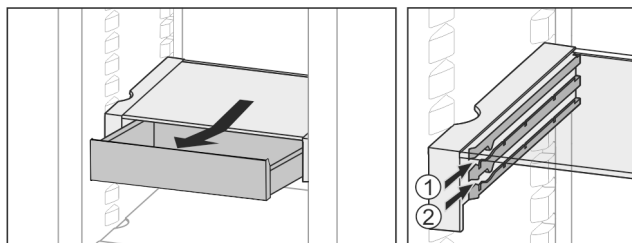

Fig. 25
- Slide in at any height Fig. 25 (1) or Fig. 25 (2).